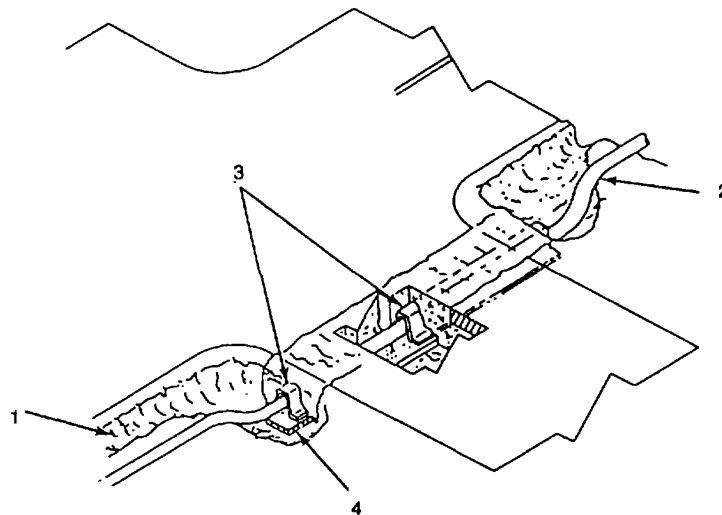

Figure 2-9. Road Crossing Guard
- e. Install Road Crossing Guards. Perform the following (Figure 2-9):